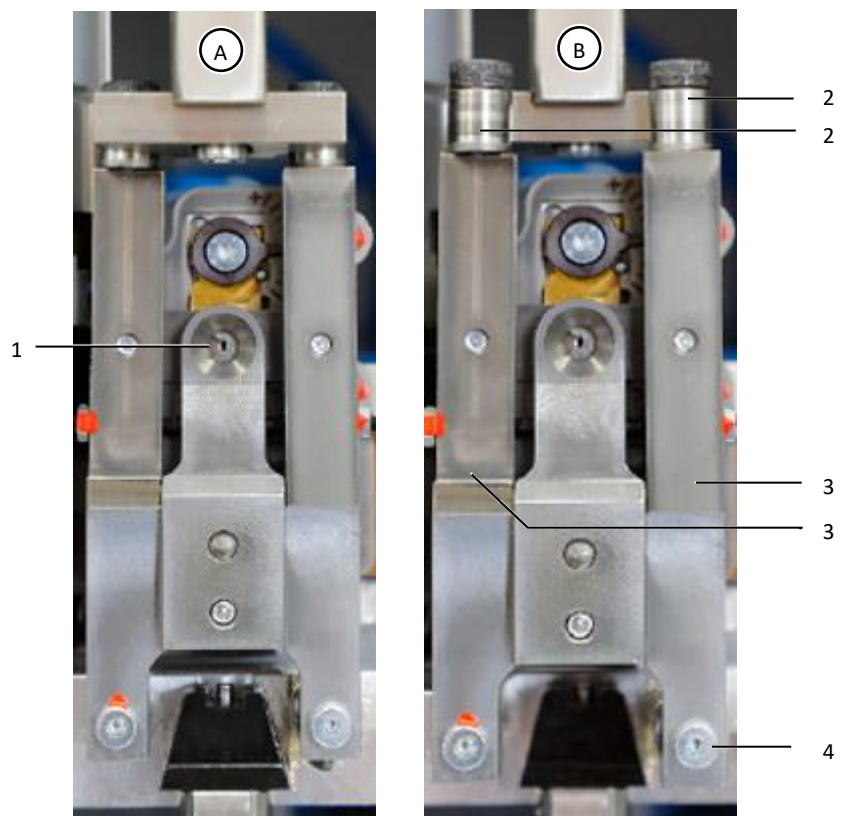

Fig. 11: The stranded wire fixing unit at the operational position (A) and pulled forwards (B)
- Clean the feeding funnel (fig. 11, item 1) with a brush.
- Pull the stranded wire fixing unit forwards (fig. 11, item B).
- Check whether the rollers (fig. 11, item 2) are smooth-running.
- Oil the pivot points (fig. 11, item 3) of the stranded wire fixing unit.
- Ensure that the stranded wire fixing unit is at the front position (fig. 11, item B).
- Remove the right lower screw of the stranded wire fixing unit (fig. 11, item 4).